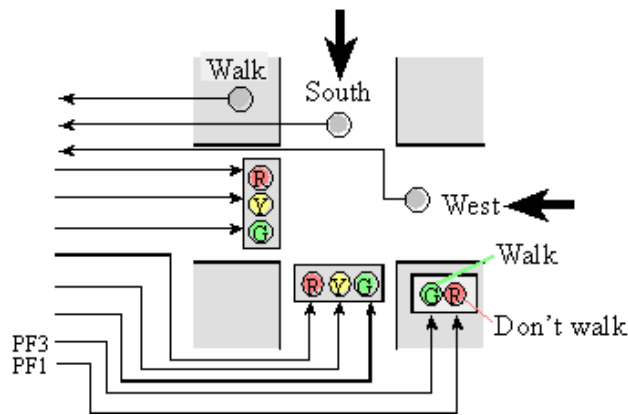

Figure 10.1. Traffic Light Intersection.
Consider a 4-corner intersection as shown in Figure 10.1. There are two one-way streets, labeled South (cars travel South) and West (cars travel West). There are three inputs to your LaunchPad, two are car sensors, and one is a pedestrian sensor. The South car sensor will be true (3.3V) if one or more cars are near the intersection on the South road. Similarly, the West car sensor will be true (3.3V) if one or more cars are near the intersection on the West road. The Walk sensor will be true (3.3V) if a pedestrian is present and he or she wishes to cross in any direction. This walk sensor is different from a walk button on most real intersections. This means when you are testing the system, you must push and hold the walk sensor until the FSM recognizes the presence of the pedestrian. Similarly, you will have to push and hold the car sensor until the FSM recognizes the presence of the car. In this simple system, if the walk sensor is +3.3V, there is pedestrian to service, and if the walk sensor is 0V, there are no people who wish to walk. The walk sensor and walk light will service pedestrians who wish to cross in any direction. This means the roads must both be red before the walk light is activated. In a similar fashion, when a car sensor is 0V, it means no cars are waiting to enter the intersection. The don't walk light should be on while cars have a green or yellow light.
6) Does the walk occur on just one street or both? *Required operation:* stop all cars and let people walk across either or both streets. A green (or yellow) light in any direction while the “walk” light is on will cause the automatic grader to penalize you for failing check #2. The pedestrian sensor does not know which street the pedestrian(s) want to cross, so you must direct all cars to stop while pedestrians may be in the road. You are not allowed to add additional pedestrian sensor because the automatic grader is built to handle only the configuration shown in Figure 10.1.